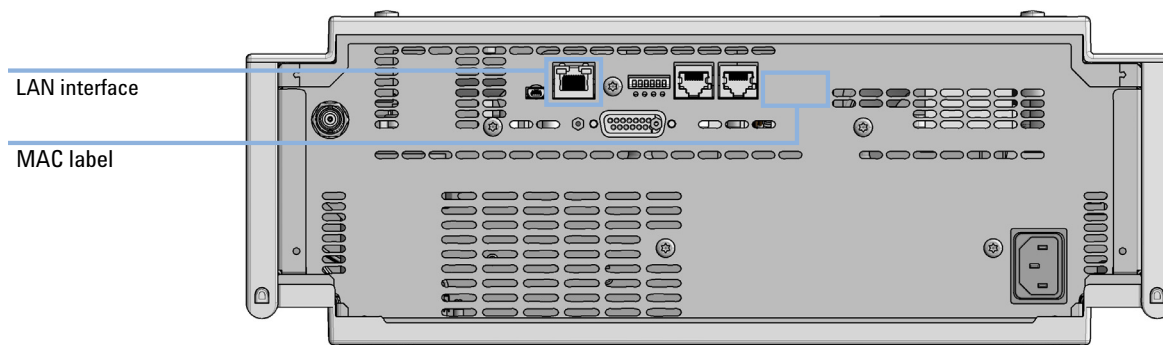

Figure 32 Location of LAN interfaces and MAC label
- 1 Note the MAC (Media Access Control) address for further reference. The MAC or hardware address of the LAN interfaces is a world wide unique identifier. No other network device will have the same hardware address. The MAC address can be found on a label at the rear of the module underneath the configuration switch (see Figure 32 on page 252).
- 2 Connect the instrument's LAN interface (see Figure 32 on page 252) to